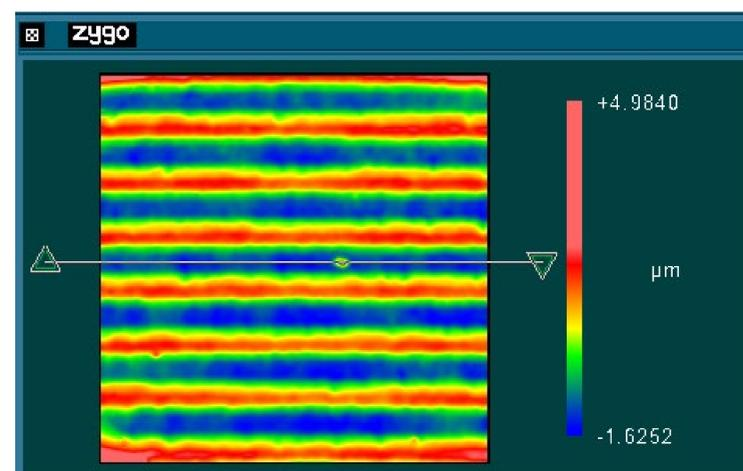

Figure 3: Topographic image of a discs surface
- Samples of the data collected can be seen in Figure 3 and 4.